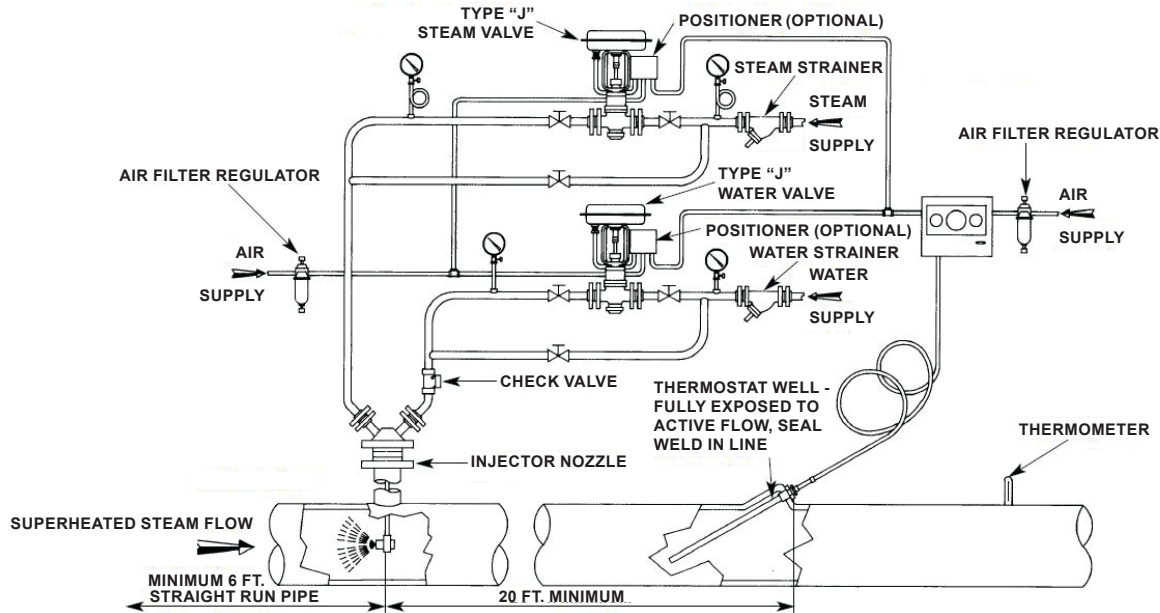

Figure 2. Air-Operated Desuperheater Station Installation
1. Locate the injector nozzle in the superheated steam main. There should be at least 8 diameters (6 ft / 1.83 m minimum) of straight run ahead of the nozzle. The nozzle will operate in any position in a horizontal or vertical pipe. The center-to-face dimension of the flanged connection must equal that of the nozzle. This will place the nozzle on the steam main's centerline. See Figure 2.
2. Install the control valves and strainers as shown with the arrows pointing in the direction of flow. See Figure 2.
8. Install the required pressure gauges and thermometer as shown in Figure 2.